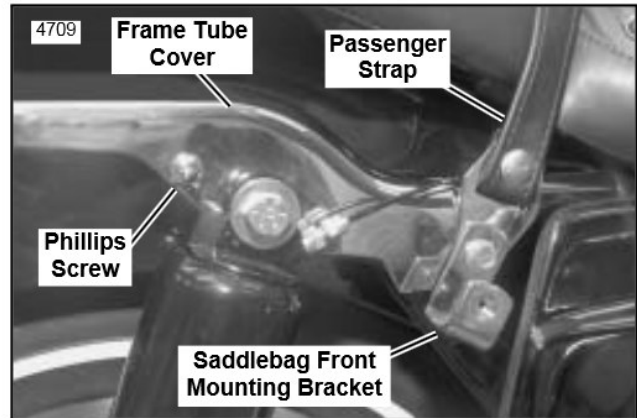

Figure 2. Remove Frame Tube Cover
3. See Figure 2. Loosen Phillips screw from chrome frame tube cover. Remove bolt (with flat washer) to remove saddlebag front mounting bracket and passenger strap. Raise up and remove frame tube cover.